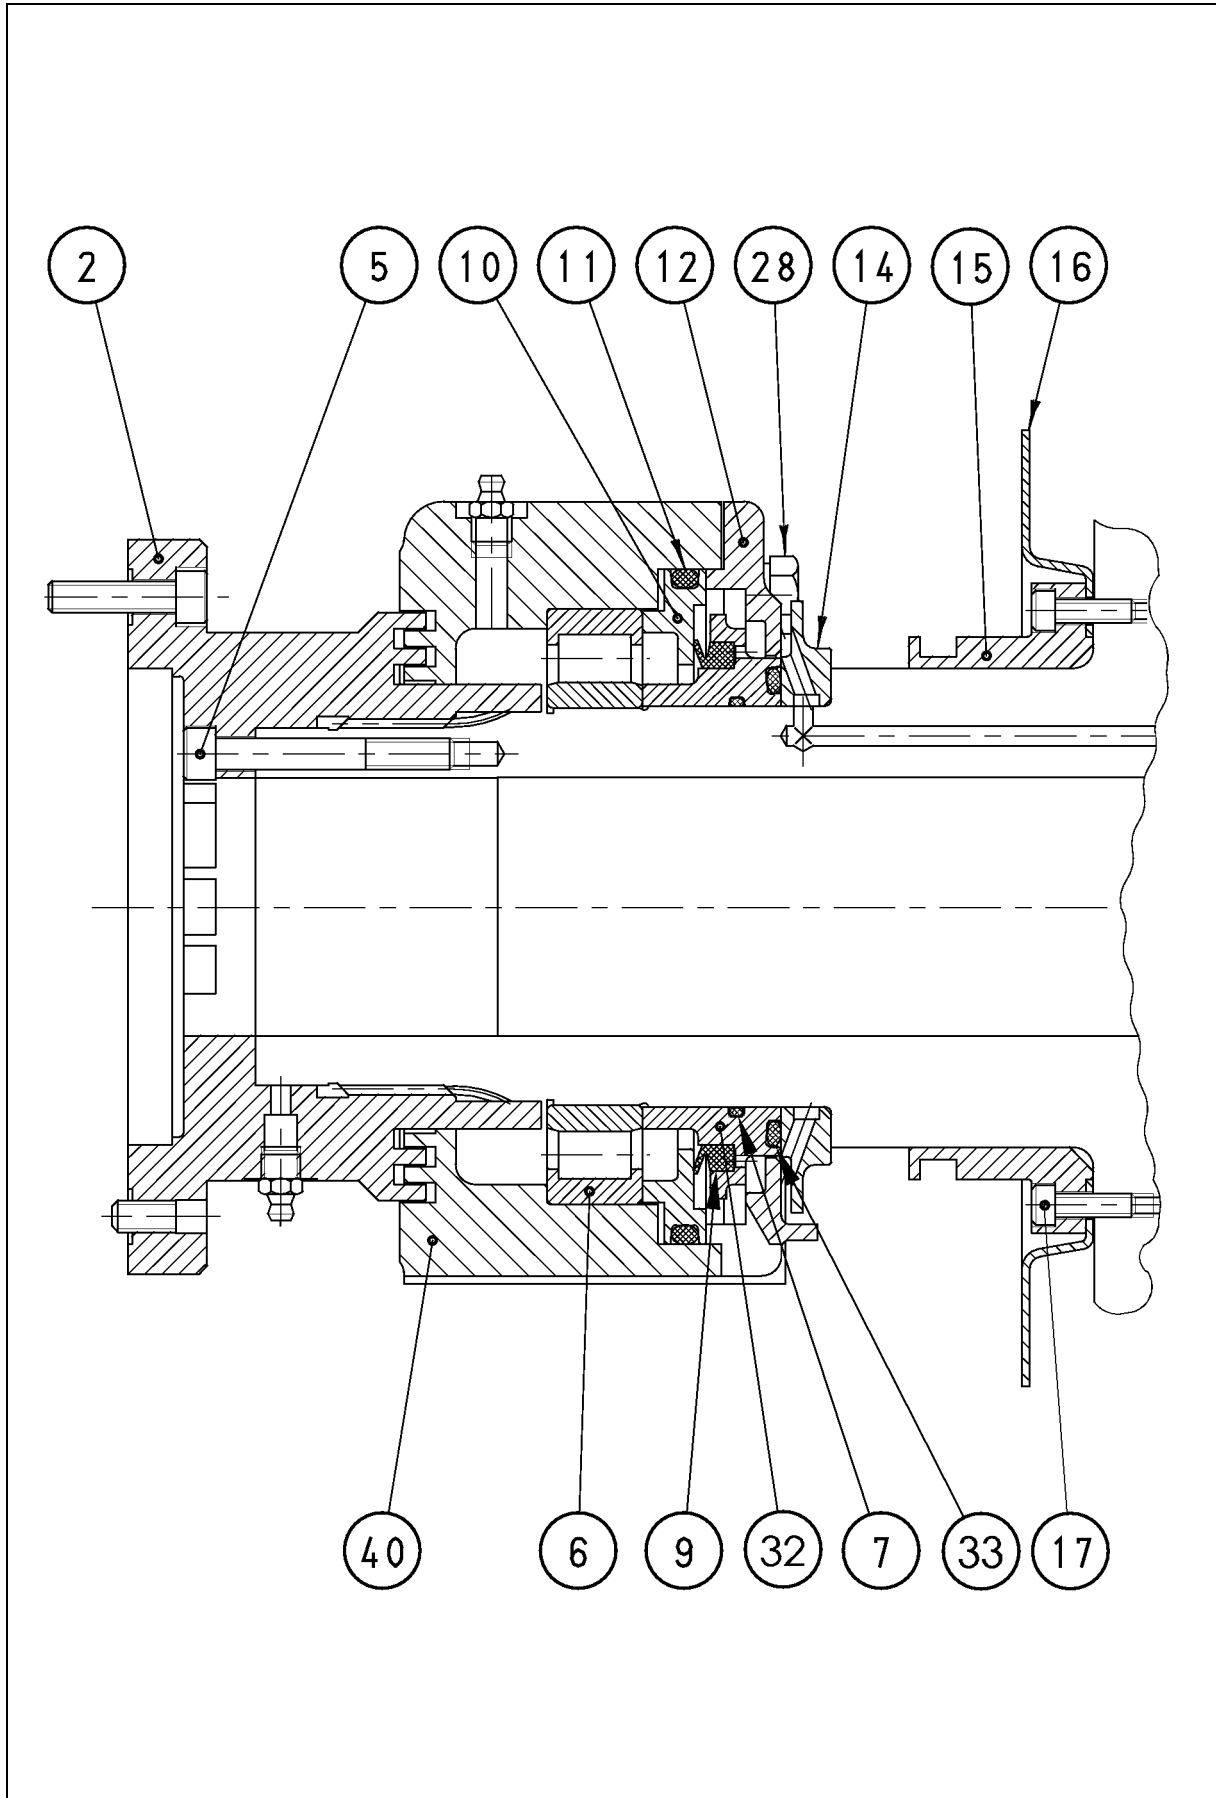

Figure 4.2.1
4.2 Main Bearings (Fig. 4.2.1)
4.2.1 Disassemble Main Bearing Large End (Fig. 4.2.1)
4.2.2 Assemble Main Bearing Large End (Fig. 4.2.1)